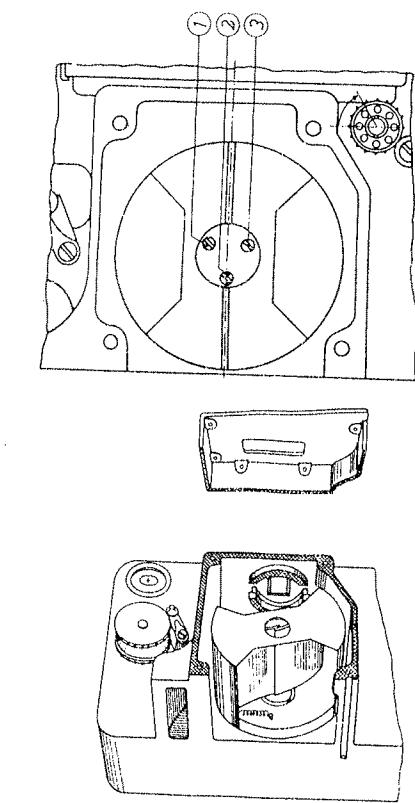

Fig. 28
1. Description (fig. 28)
- Before mounting the cooling system in the shutter housing, remove the lacquer from all the surfaces of the projector with which the cooling system comes into contact, so as to ensure the best possible heat transfer. These surfaces are shaded in fig. 28.